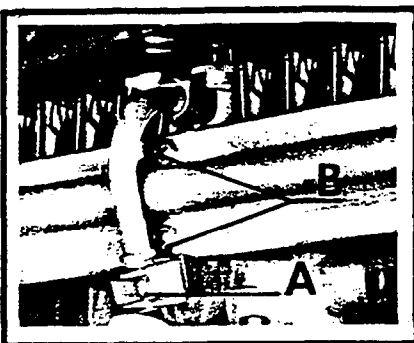

Fig. 17
To obtain the required output, it may be necessary to change the restrictor situated in the burner manifold (fig. 17). To alter the heat output remove the pilot supply tube and the two screws securing the burner manifold to the burner assembly. Replace the restrictor with the required size as detailed in TECHNICAL DATA. Replace the burner manifold and pilot tube.
9.1.1. Clean the Burner (fig. 17).